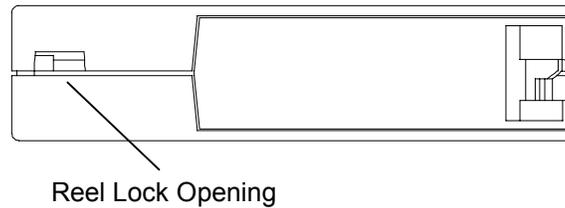

Figure 5-7 Location of Side Reel Lock Tab
4. Hold the tape cartridge so that the end of the cartridge that is normally inserted into the tape drive is instead facing you. Locate the small reel lock opening on the left side of the tape cartridge (Figure 5-7). Inside and near the center of this opening, you should see a small plastic tab. This is one of the reel locks. The reel locks can break if the cartridge is dropped and this may cause any rattling sound